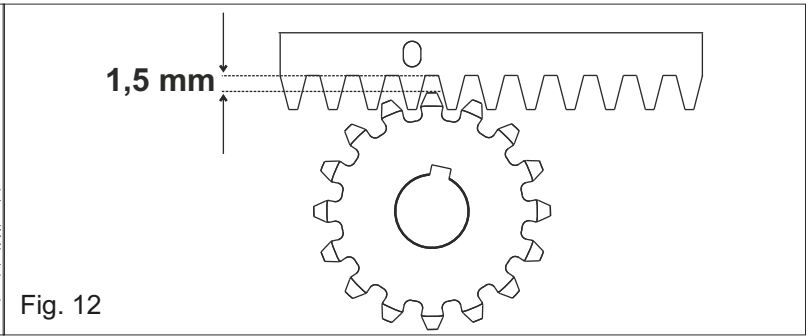

Fig. 12
5.6. go avoid that the gate weights down the pinion (Fig.12) lift up the whole rack about 1,5 mm.